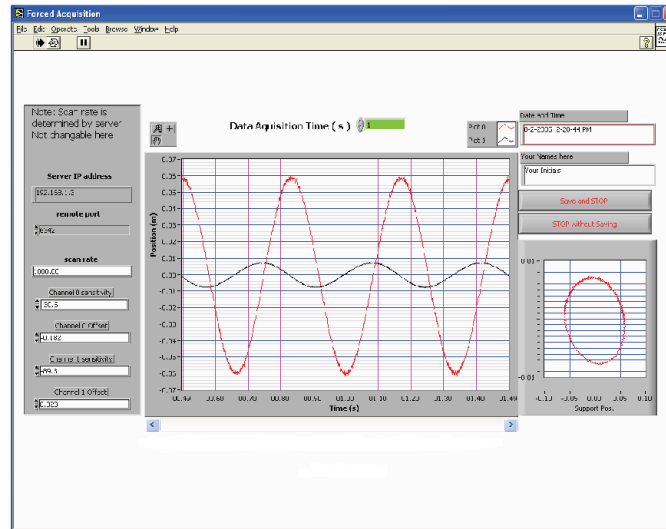

Figure 1.9: The *ForcedAcq* program.
3. *ForcedAcq* (Figure 1.9) for acquiring data on the system with a sinusoidal forcing function; and